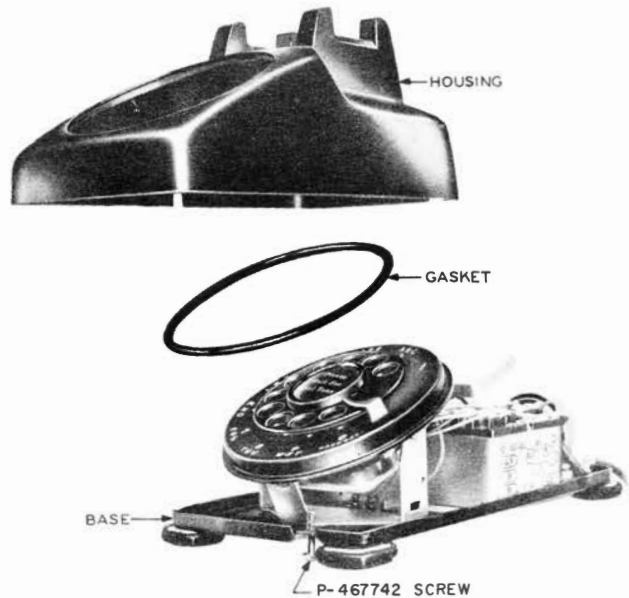

Fig. 21 - 500- or 501-type Set, Housing Assembly
4.01 The housing on all 500-type desk sets is secured to the base by two captive mounting screws with lockwashers under the head (see Fig. 21).